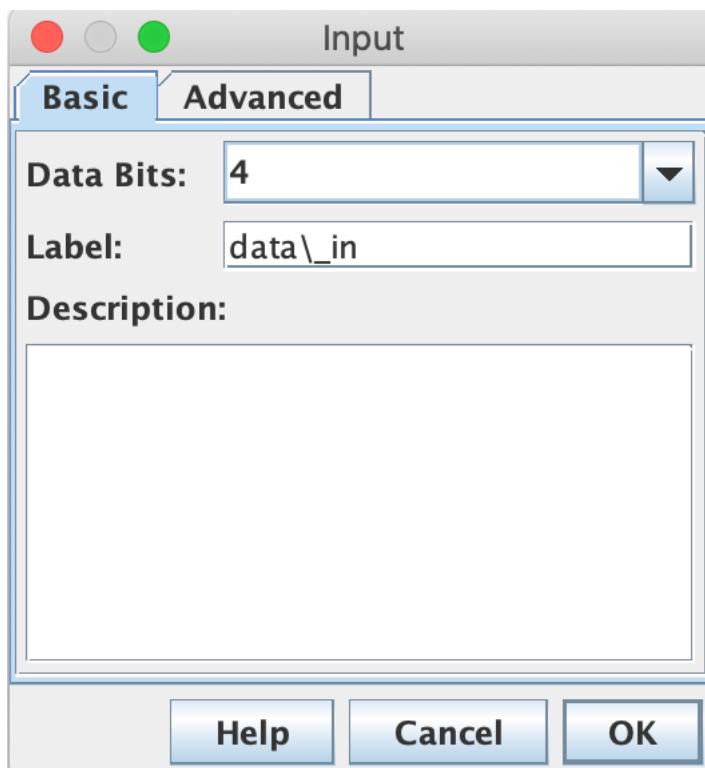

Figure 5. Escaping the underscore.
**IMPORTANT:** Because of the way Digital maintains strings, you need to escape the underscore. When creating the label for data\_in, type data\\_in. If you don't, then the formatting will assume you wanted the "in" to be a subscript and you'll get datain when we want data\_in. You'll need to do the same for data\\_out! See Figure 5 for an example.